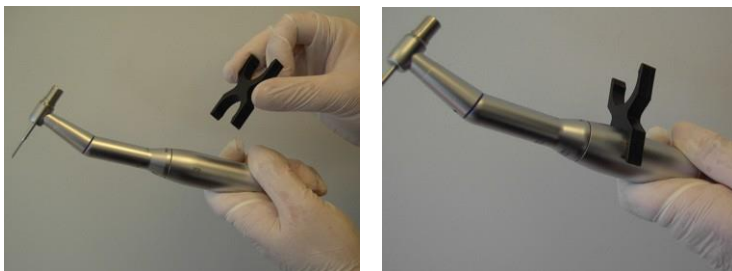

Figure 3-55. Attaching the Clamp to the Handpiece
11. Attach the clamp to the handpiece, as shown in Figure 3-55.